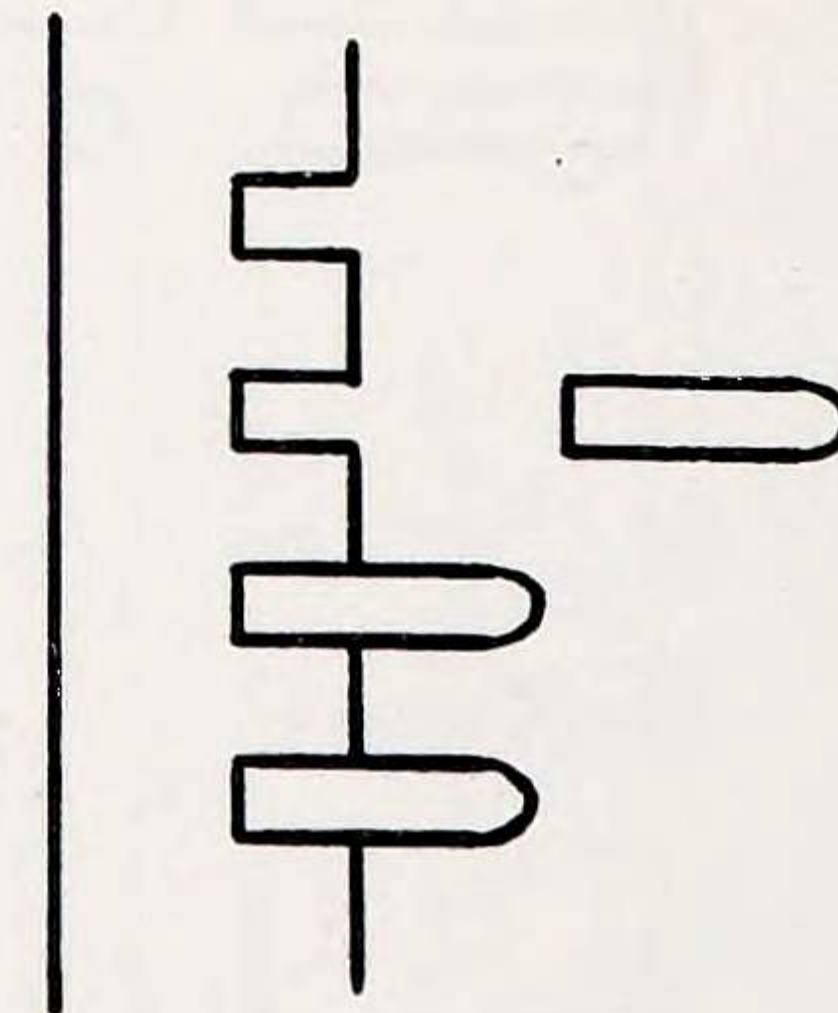

Fig. 2 The series of grooves are cut in the internal sides and in the rear external sides and the CD support slips are glued in position
3. Before assembly, cut the series of grooves in the rear outside face of the internal sides that will house the supports for the CDs (Fig. 2). The best machine for this task is the hand-held power router. It is practical to work the corresponding grooves on the inside face of the rear external sides at the same time, and then make and insert the CD support strips into these grooves.